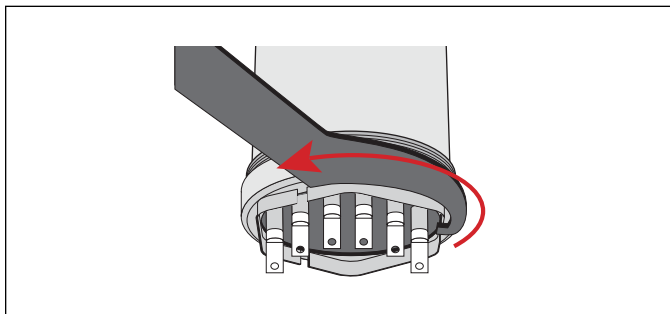

Figure 20
4. Use a suitable wrench to remove the element containing cap from the water heating canister. See Figure 20.